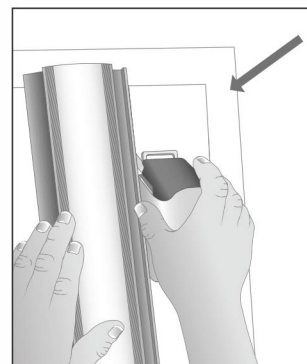

Fig. 3
- 4 With the blade positioned off the top edge of the material, push the Cutting Head downward. With Cutting Head fully depressed, pull the Cutter backwards along the Channel Rail and continue along the length of the material (**Fig. 3**).